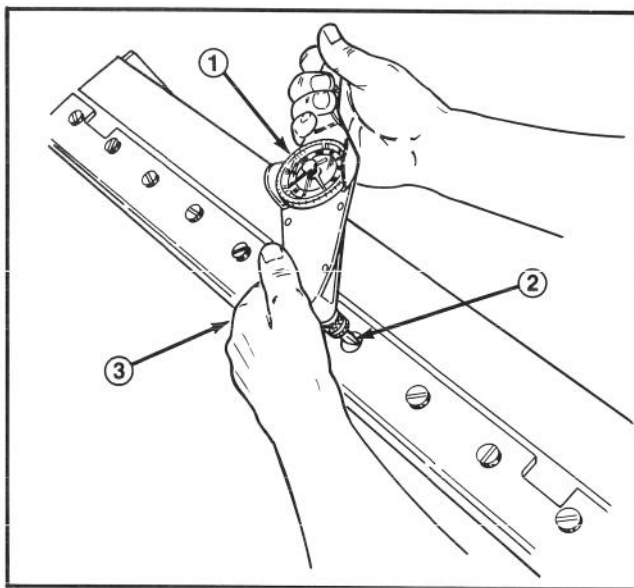

Figure 26
3. Use a torque wrench and Part No. 51-0880 special tool to finish tightening the screws (Fig. 26). Torque the screws to 250 in.-lb (28 Kgm) beginning with the center screw and tightening alternate screws toward each end to insure the bedknife will be flat against the bedbar.